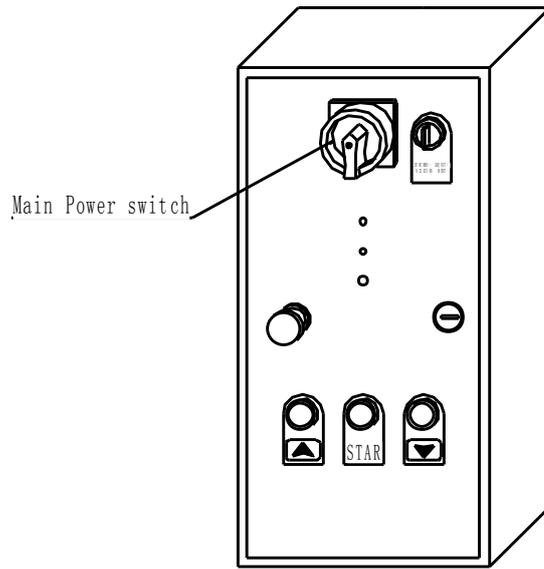

fig 21
2) Turn "0→1" switch on main electric cabinet to "1" (see fig 21)